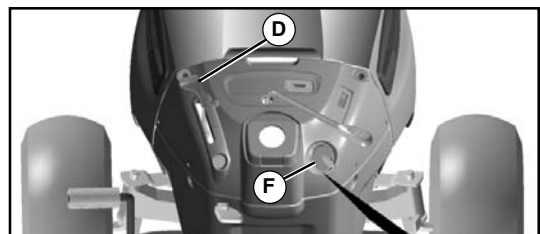

FIG. 9
### TO USE THROTTLE CONTROL (D) (See Fig. 9)